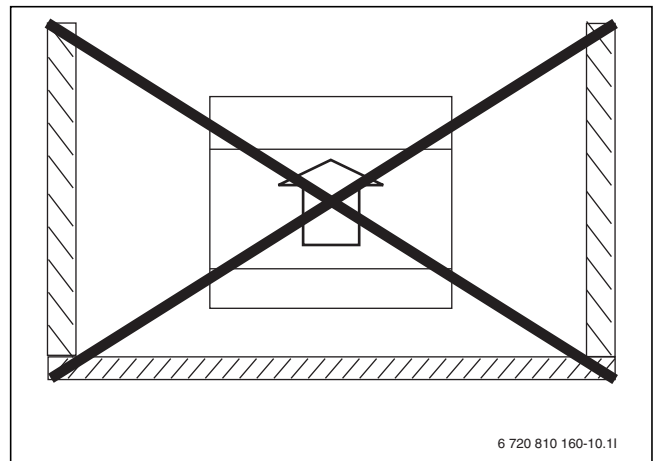

Fig. 10 Avoid placement with surrounding walls
- Do not install the heat pump in a corner where it is surrounded by walls on 3 sides (→ Fig. 10).
Placement in a corner or with surrounding walls may lead to raised sound levels and abnormal soiling of the evaporator (→ Fig. 10).